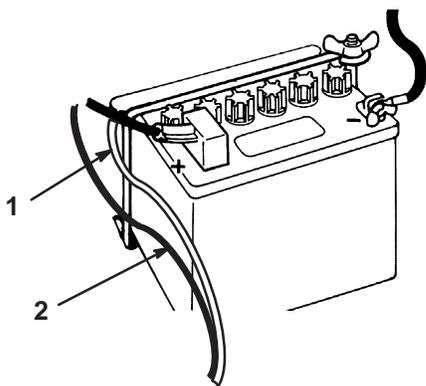

Figure 5
- Install the battery with the terminal posts toward the rear of the machine and vent tube on the left side of the battery, through the hole in the frame (Fig. 5).
- Install the red positive cable (rubber boot over end) to the positive (+) terminal and the negative cable (black) to the negative (-) terminal of the battery and secure with capscrews and wing nuts. Slide the rubber boot over the positive terminal to prevent a possible short-out from occurring (Fig. 5).